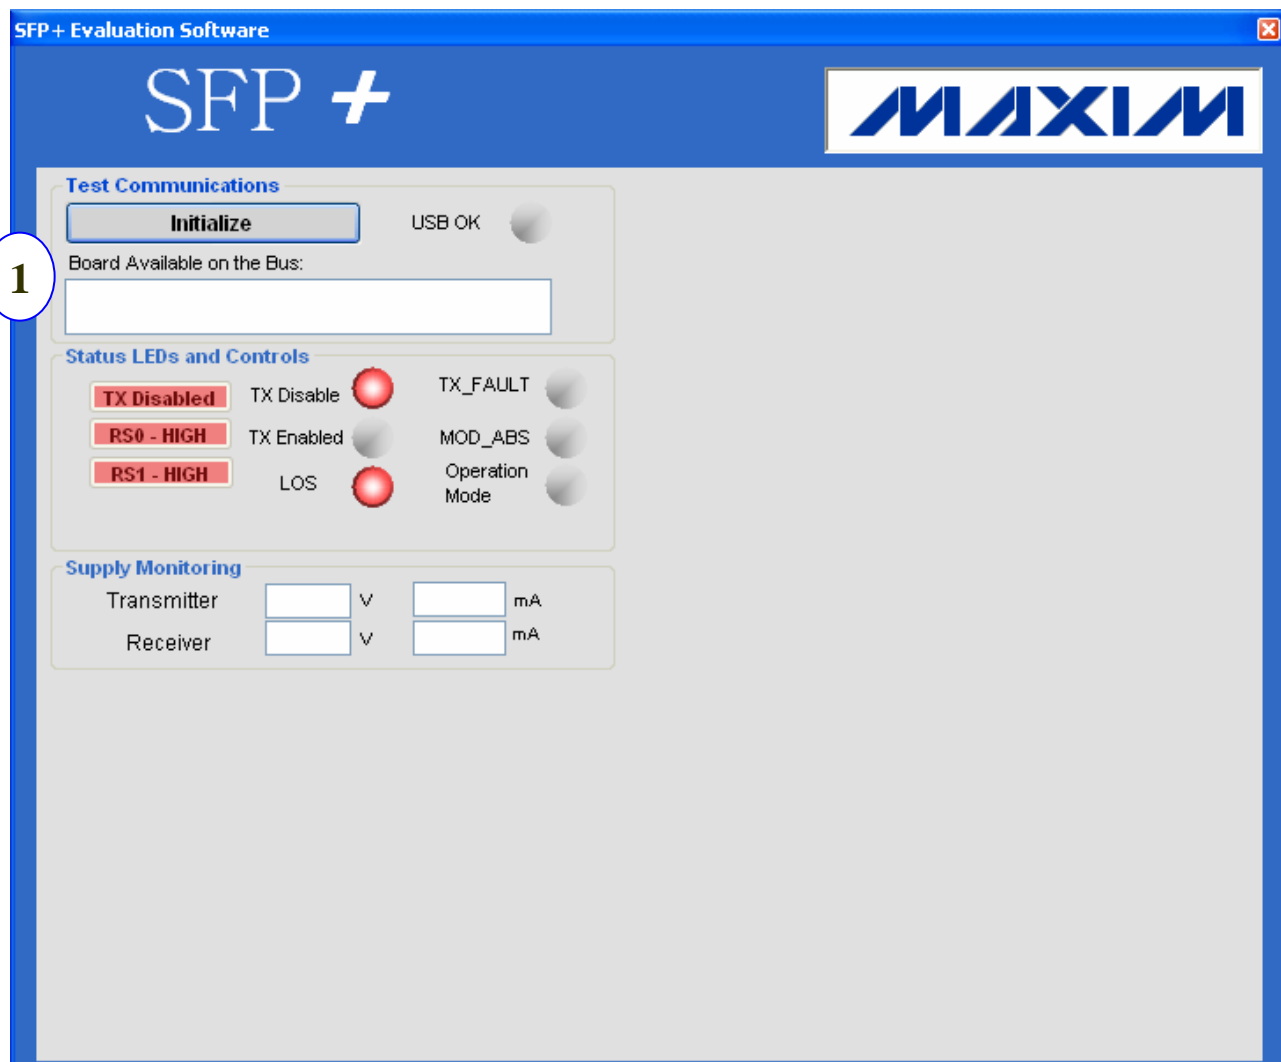
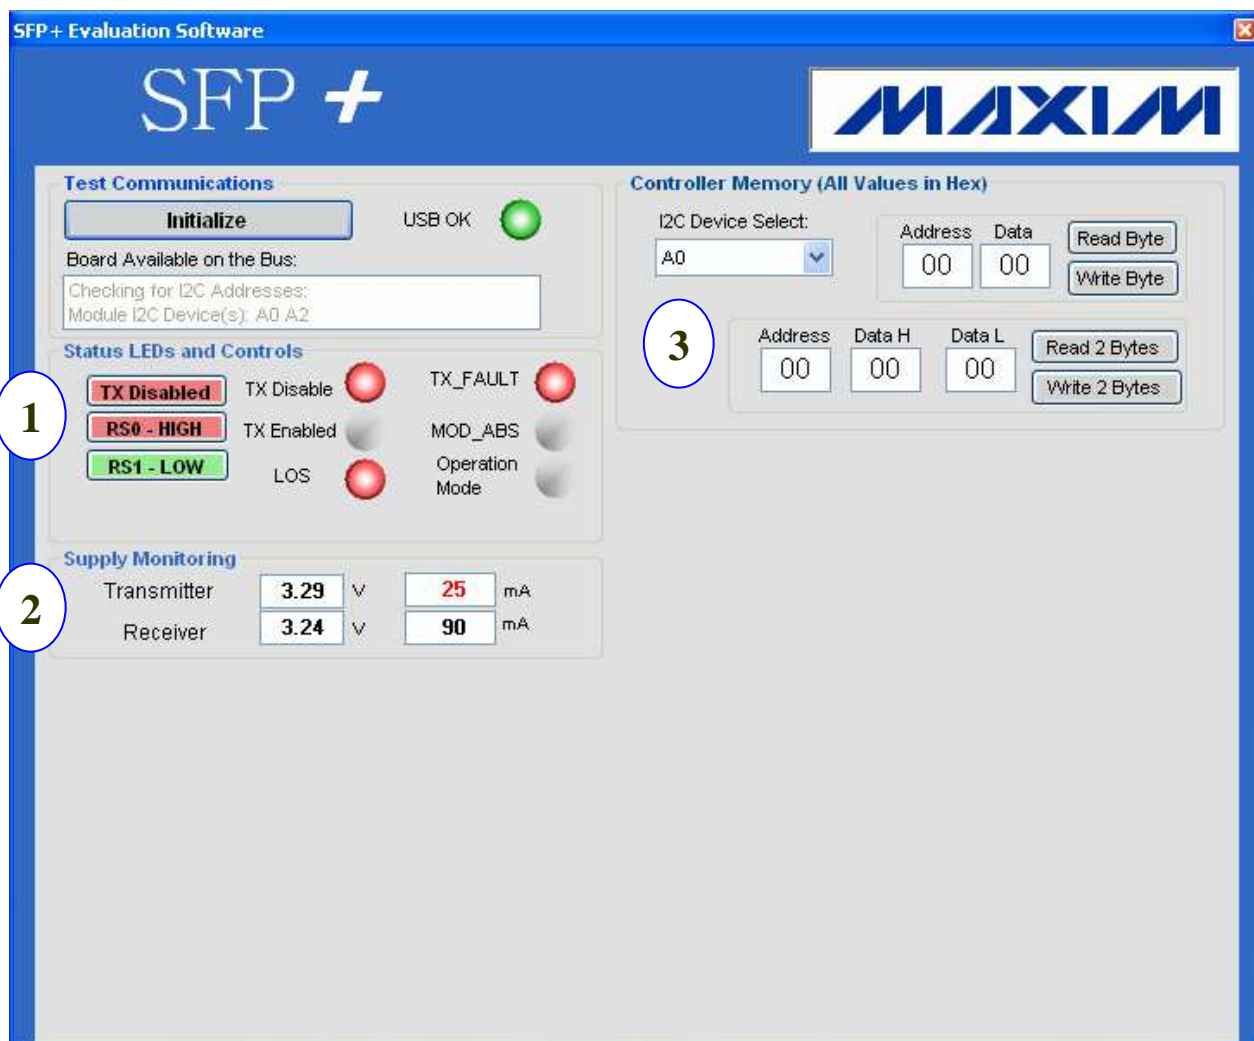

Figure 2. Initial screen.
Figure 3. GUI overview.
Figures 2 through 3 are screen shots of the GUI that highlight various reference-design features. A brief explanation of the features is listed below each figure.
9. When the software loads, press **Initialize** (Figure 2). If everything is connected correctly, a screen similar to that shown in Figure 3 should appear. Wait to enable the driver until the remaining connections are made.